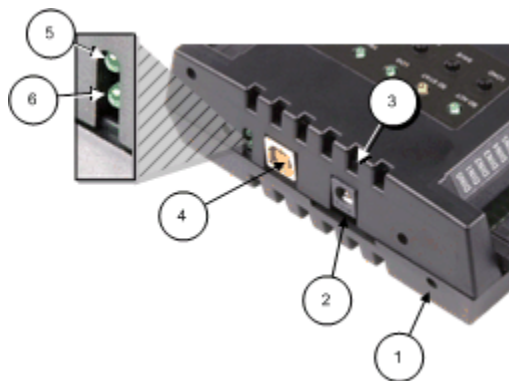

Figure 3. OM-LGR-5325 connectors, SD card slot, LEDs, and reset button
- To power the LGR-5325 from an external power source, using the power connector, connect the 9 V, 1 A external power supply to the external power connector (see Figure 3 on page 10), and plug the adapter into an electrical outlet.
To connect the OM-LGR-5325 to your system, turn the computer on, and connect a USB cable from the OM-LGR-5325's USB connector (see Figure 3 on page 10) to either a USB port on the computer or an external USB hub connected to the computer.
- ① USB and power connectors and LEDs, SD slot, and reset button.
- ② Function buttons and LEDs.
- ③ Screw terminals and LEDs
The components indicated by ① are identified in Figure 3 and explained below.